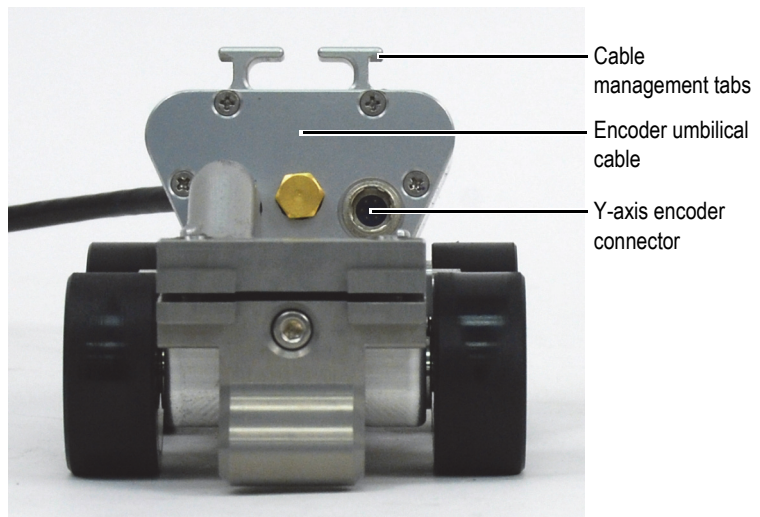

Figure 2-5 The encoder connector and the cable management tabs.
2. Connect the y-axis encoder cable to the encoder connector (see Figure 2-5 on page 37).